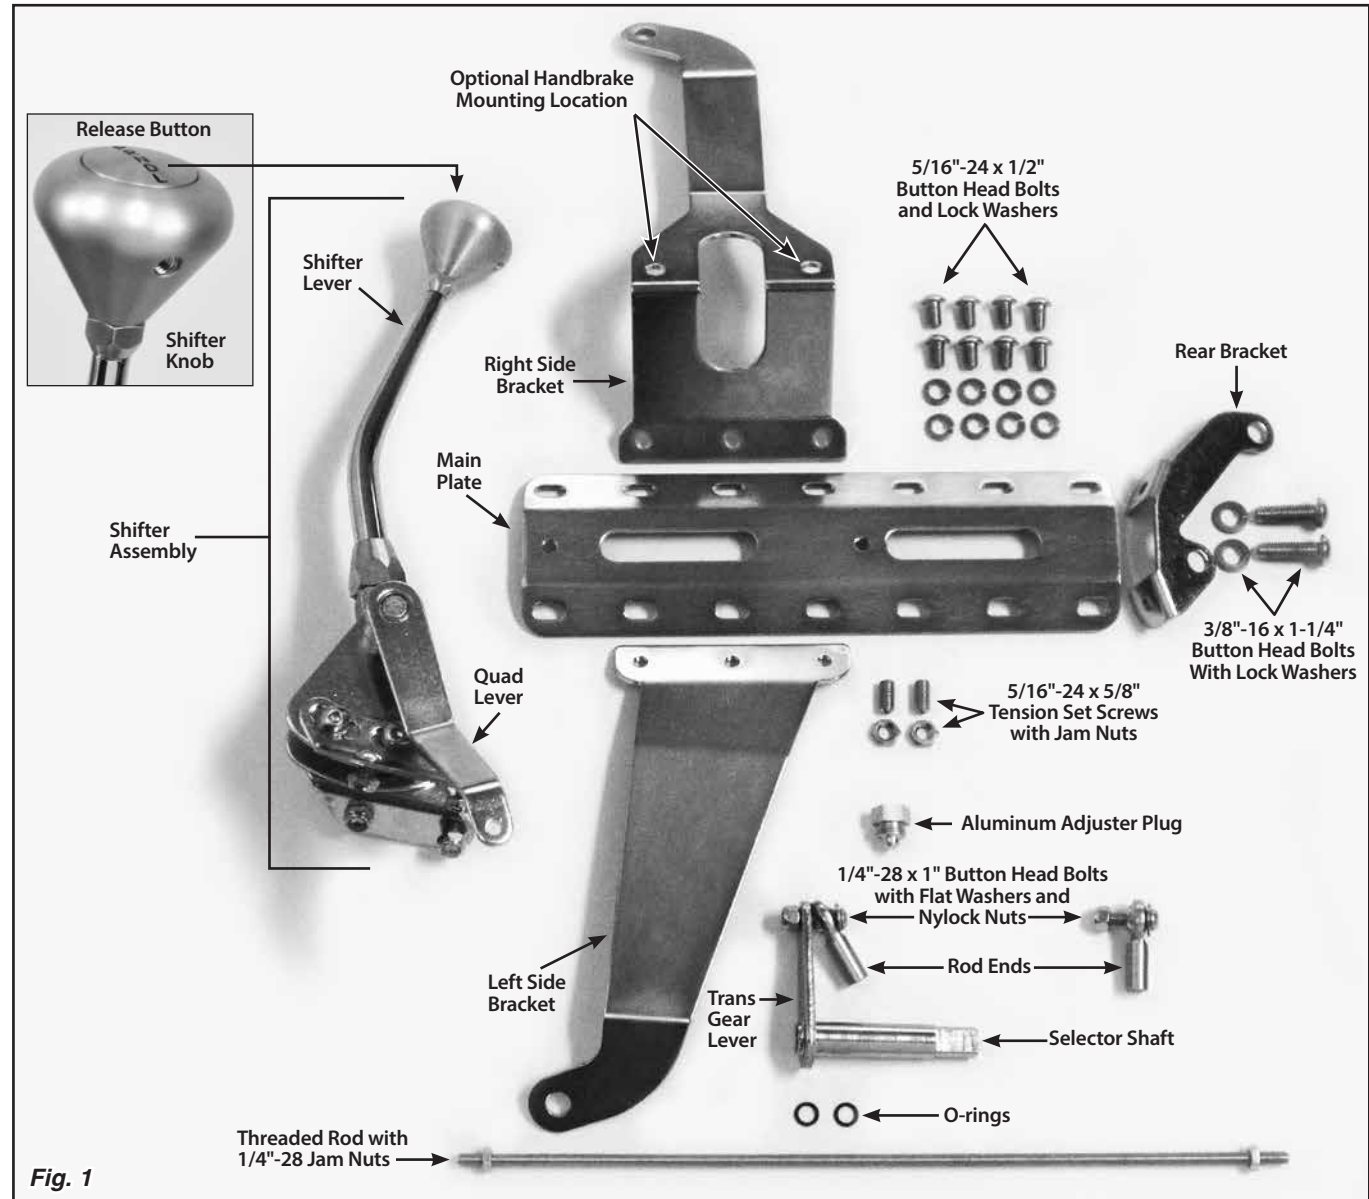

Fig. 1
**This Shifter is designed for an aluminum case only. It DOES NOT FIT a cast iron case. Refer to Fig. 1 for the component names.**